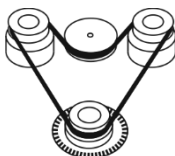

Figure 7. Rubber belt replacement
- Replace the rubber belt (fig. 7).